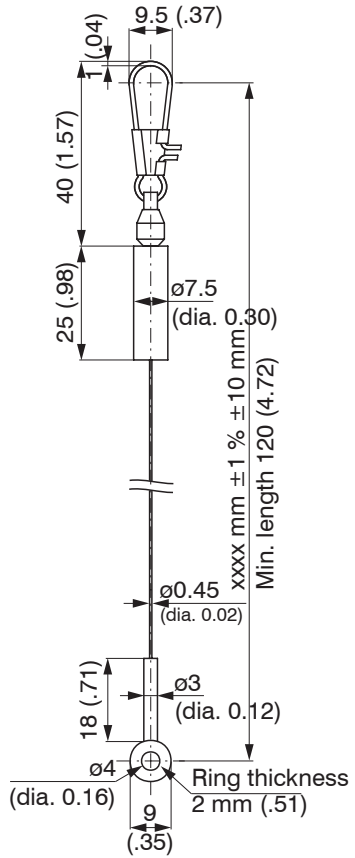

Fig. 9 Wire extension WE-xxxx-CLIP, dimensions in mm, not to scale
- WE-xxxx-CLIP Wire extension with wire clip and eyelet, see Fig. 9, use for xxxx wire length in mm (max. 10,000 mm)